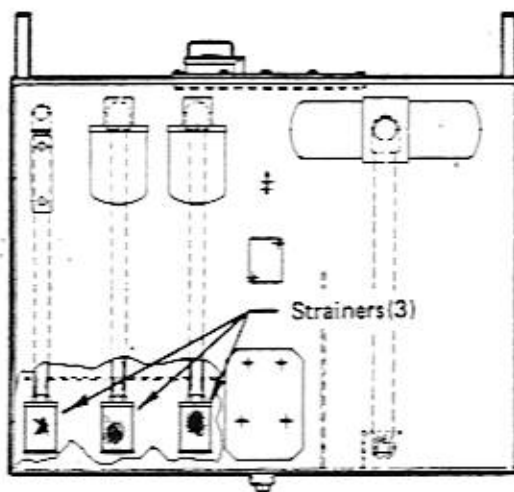

Figure 13-2
3. Each strainer is at the bottom of a pipe. Remove pipe and strainer as an assembly. If the strainer is damaged, replace it. See Figure 13-2.